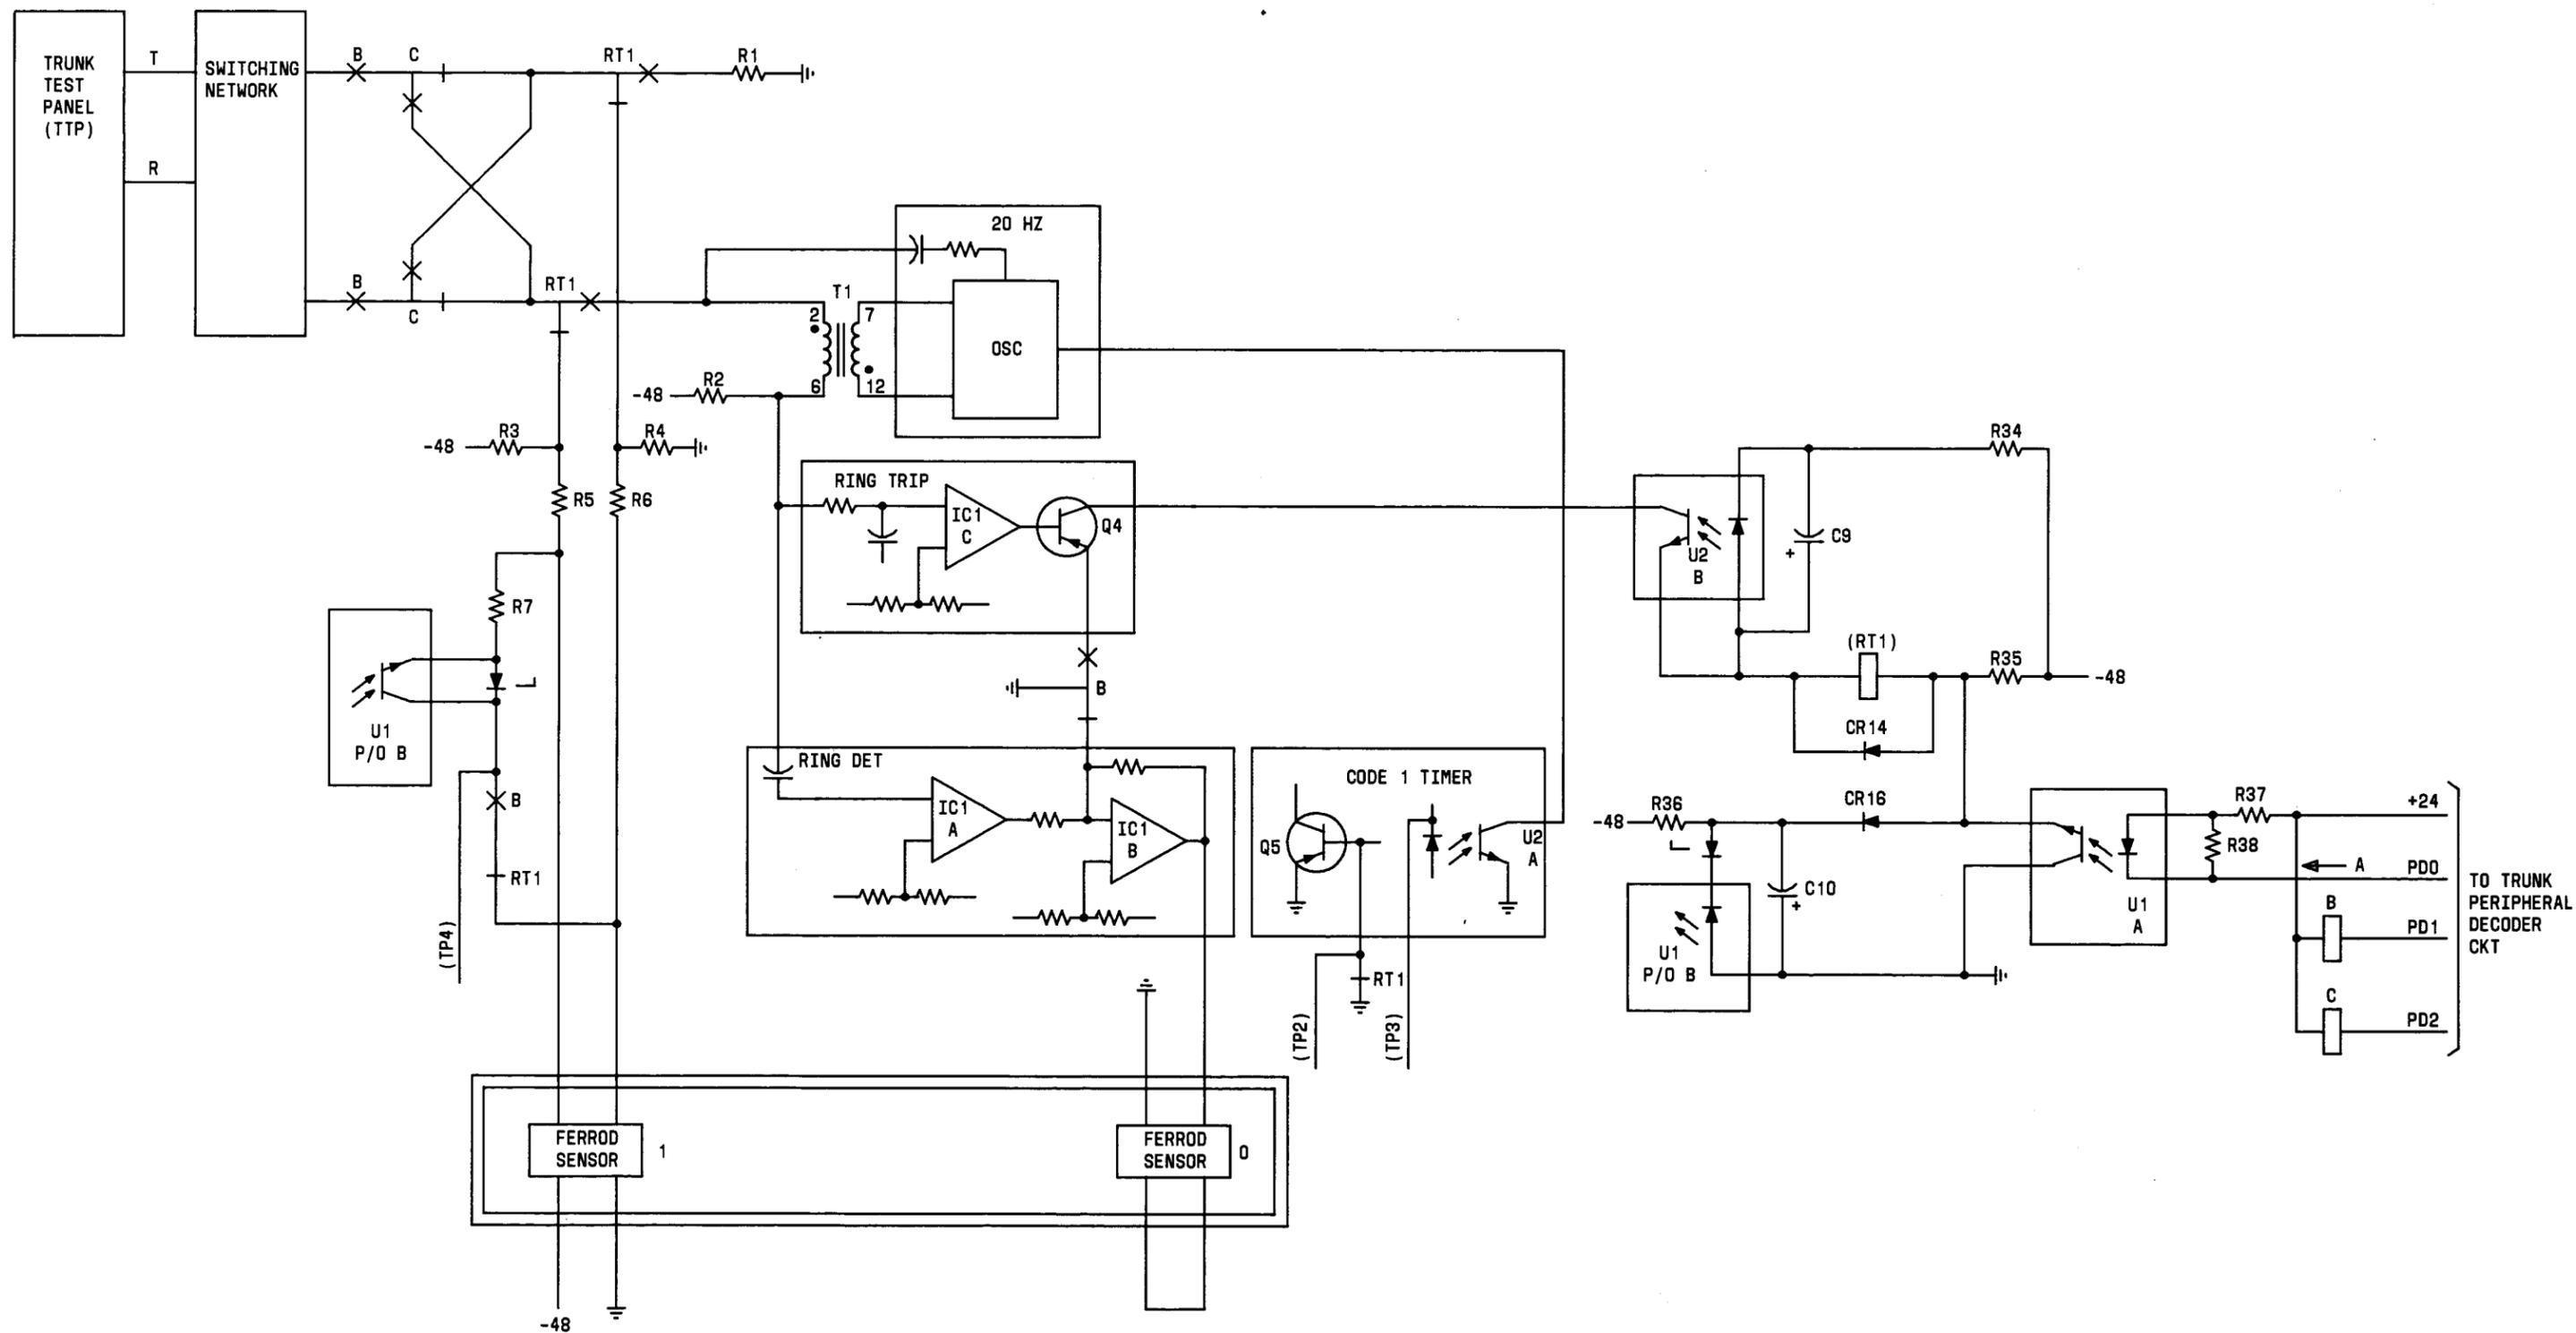

Fig. 1—Test Configuration Using Trunk Test Panel When Testing Ringing Circuit (2H116-02)
3.03 The following is a step-by-step procedure to make the ringer circuit traffic busy and connect it to the TTP (Fig. 1).